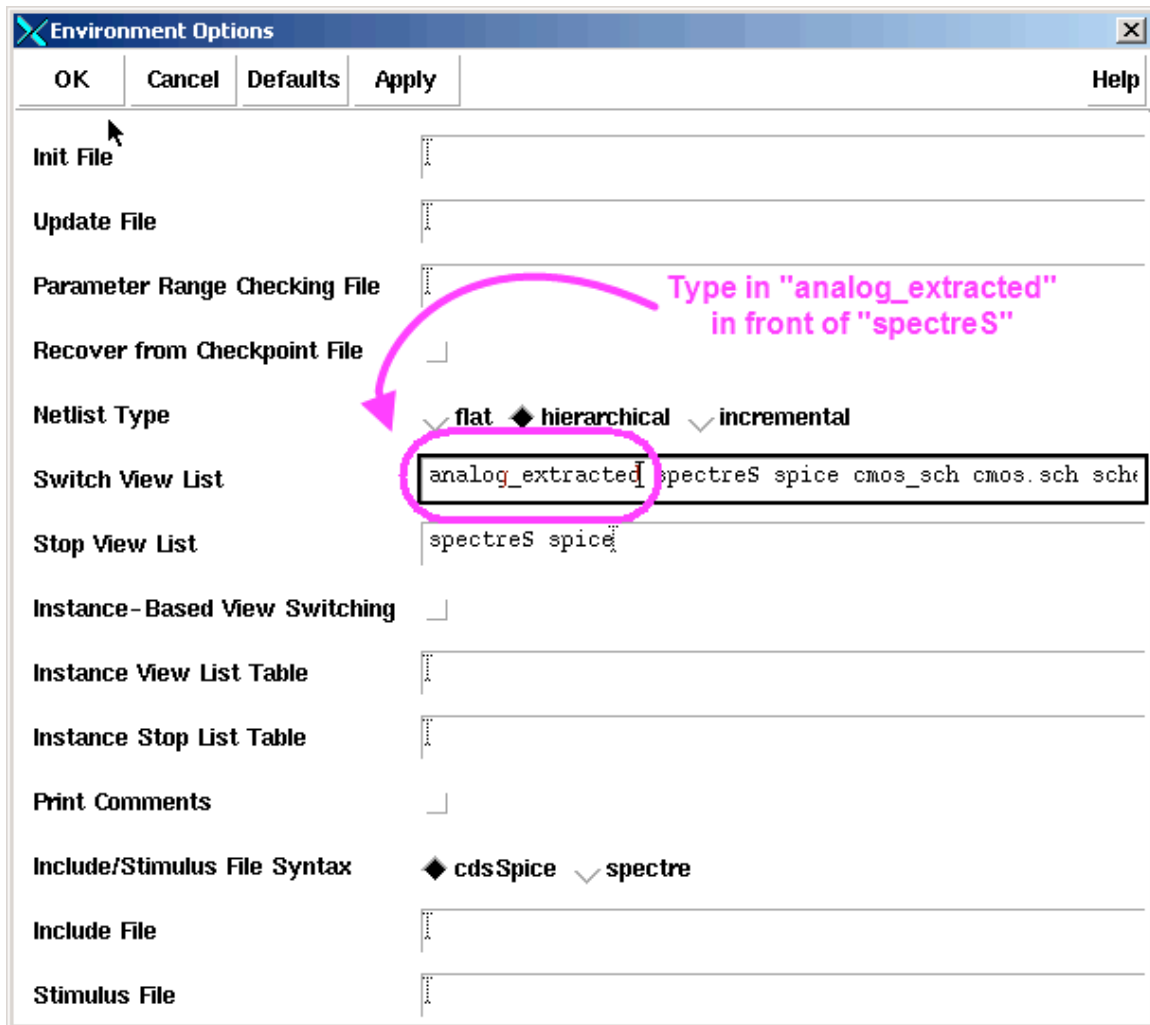

Figure 105: Adding the extracted environment.
4. Go to *Setup... Environment*. A pop-up like Figure 105 should appear.
5. Type in the word “**analog_extracted**” as shown in Figure 105 in front of “**spectraS**”